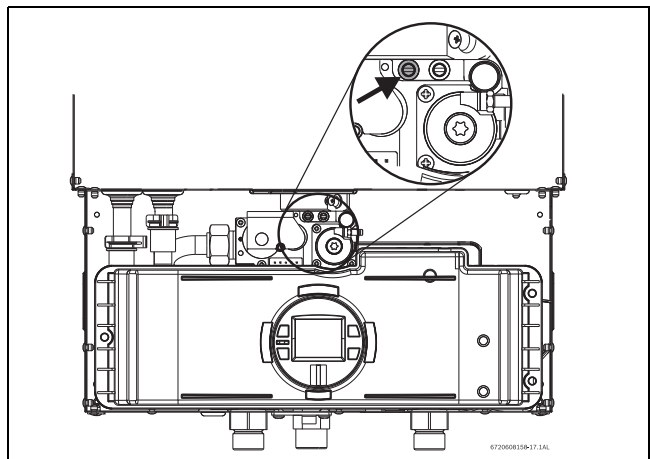

Fig. 43 Gas pressure test port (left tapping)
- ▶ Remove front cover and locate inlet gas pressure test port (see Fig.43).